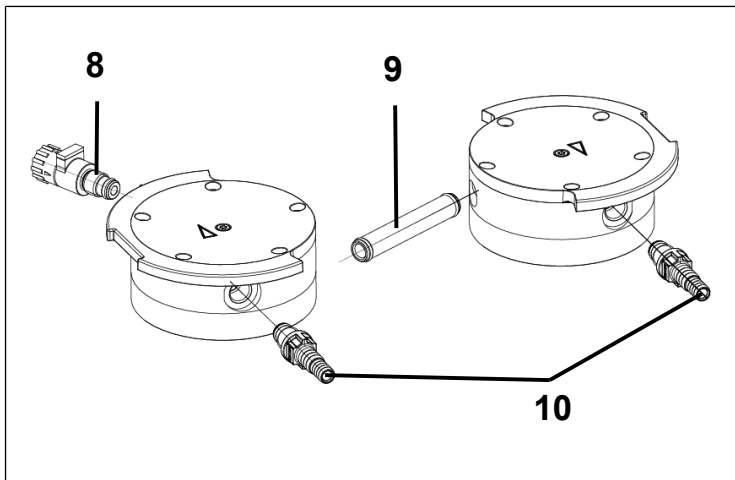

Fig.11: Changing O-rings
1. Use the tool supplied to unscrew the hose connections (Fig. 11/10) and the gas ballast valve (Fig. 11/8) from the head plate (3).
2. Pull the connection tube (Fig. 11/9) out of the head plate (3).
1. Only slacken the screw (1) of one pump head.
2. Remove the pressure plate (2) and head plate (3) from the intermediate plate (5).
3. Remove the old valve plates/seals (4).
4. Carefully clean the intermediate plate (5) (if there are deposits on it).
5. Insert the new valve plates/seals (4) into the corresponding seats on the intermediate plate (5).
7. Dispose of the old diaphragm (6) and valve plates/seals (4) properly.
8. Insert the connection tube (Fig. 11/9) into the head plate (3).
9. Screw the gas ballast (Fig. 11/8) into the corresponding head plate (3), so that the surface faces upward.
1. Press on the entire perimeter of the diaphragm (6). Only press on the membrane (6) on one pump head.
2. Place the intermediate plate (5) with the valve plates/seals (4) onto the mounting fixture, using the marker pen marking for alignment.
3. Place the head plate (3) onto the intermediate plate (5), aligning it with the aligning pin.
4. Place the pressure plate (2) onto the head plate, using the marker pen marking for alignment.
6. Tighten the screw (1) in the center of the printing plates (tightening torque: 1 Nm).
8. Use the tool supplied to screw in the hose connections (Fig. 11/10) hand-tight.